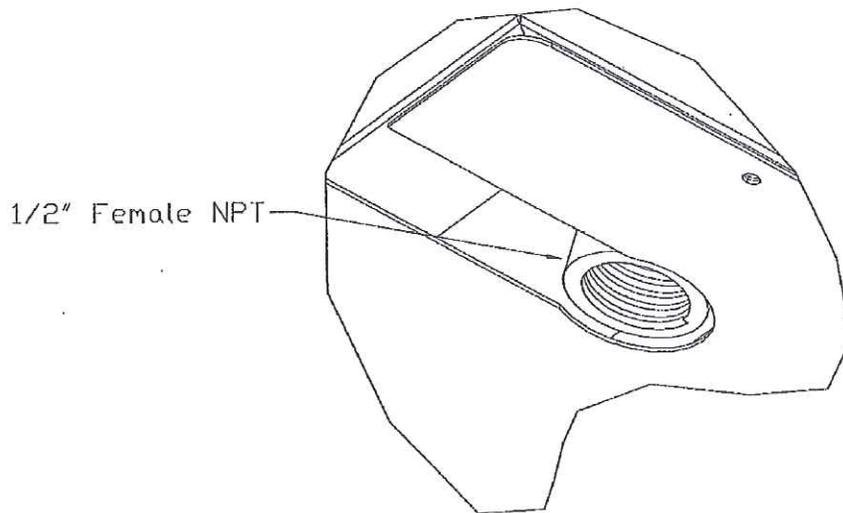

Figure 9-Drain Detail
- Figure 9, Page 10 illustrates the drain detail for the bottom of the Hot Well unit.